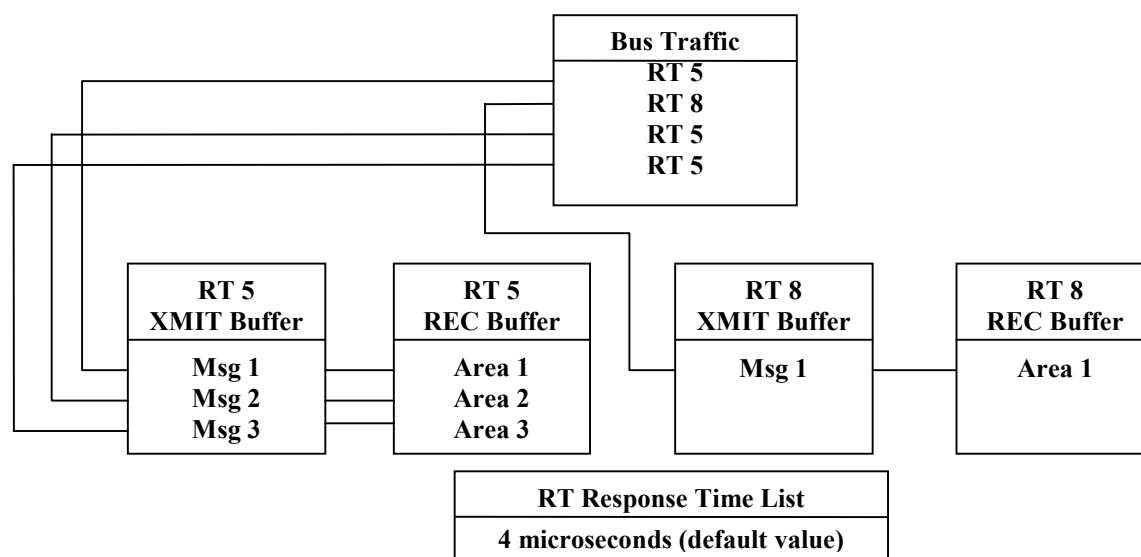

Figure 455-4: RT Simulator Example
Figure 455-4 is a simplified memory map to aid in understanding the operation of the WA73A-455 Module in the following example. The block at the top of the figure defines the order in which the bus controller will send messages to the WA73A-455 Module in this example.
- 1) The first message received by the WA73A-455 Module (message 1) is decoded and found to be a transmit command to RT 5. The received message is therefore a single command word, and is stored in RT 5's receive buffer (Area 1 in Figure 455-4)